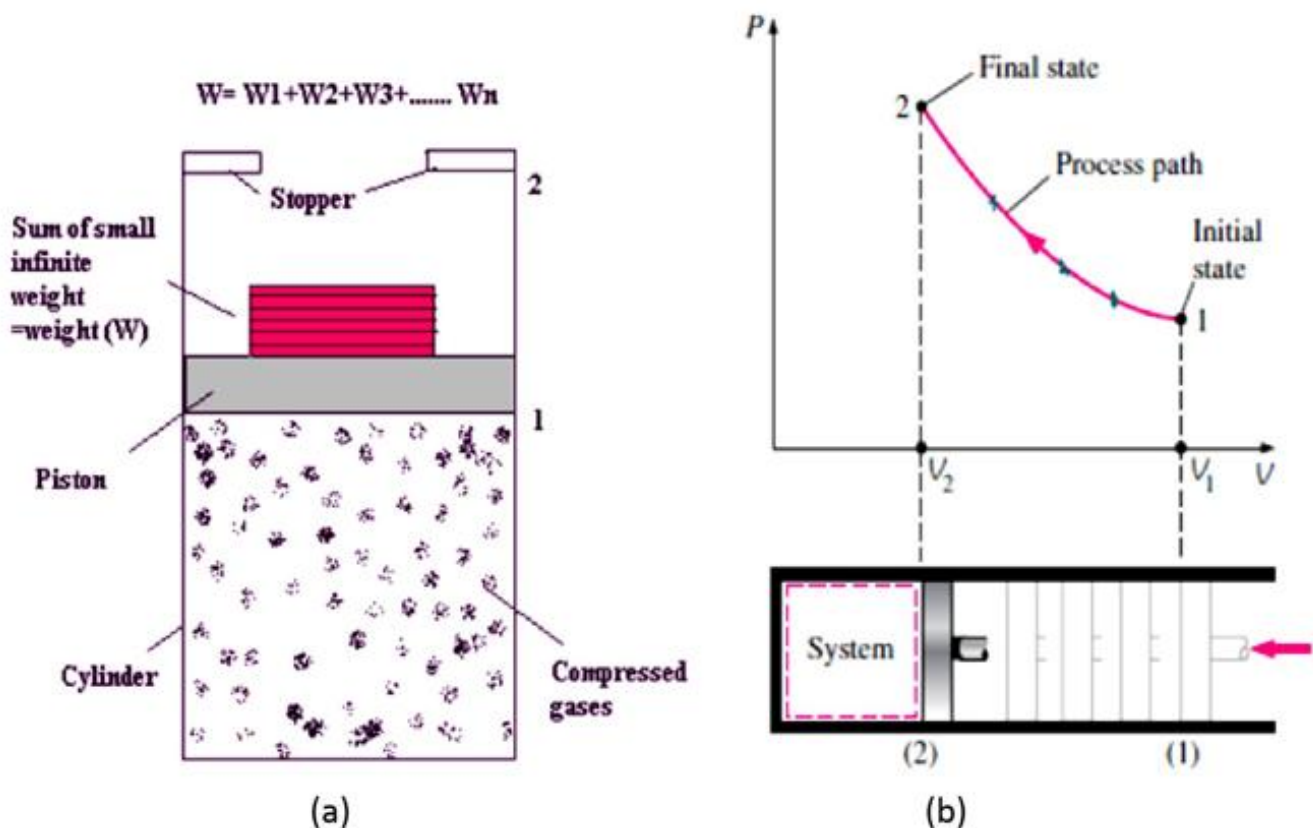

Fig. 1.9 (a) Quasi-Static Process (b) p - v diagram of a compression process
- Consider a system of gas contained in a cylinder fitted with a piston upon which many very small pieces of weights are placed as shown in Fig.1.9(a).
- Fig. 1.9(b) shows the p - v diagram of a compression process of a gas.